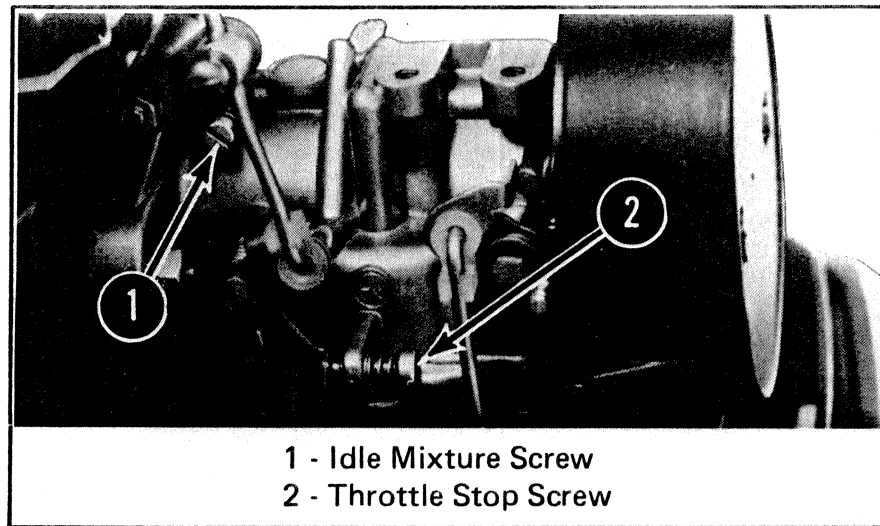

Figure 21. Carburetor Adjustment
2. Turn idle mixture screw in until lightly seated, then back out 1 to 1-1/2 turns (Figure 21). With outboard in gear, slowly turn idle mixture screw in and out, and leave it where the engine runs best.
3. In gear idle RPM should be  $850 \pm 50$  rpm. Idling speed (RPM) can be adjusted by turning throttle stop screw. (Figure 21)